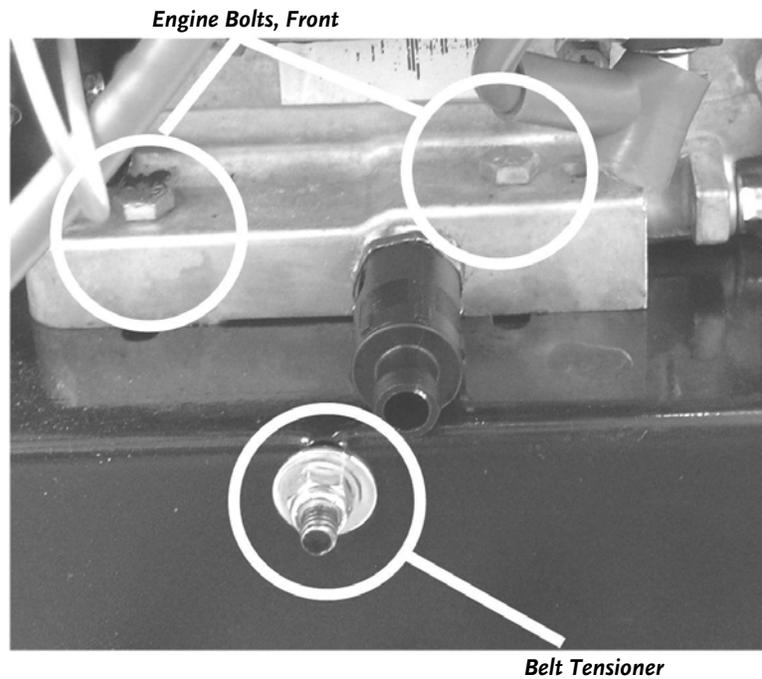
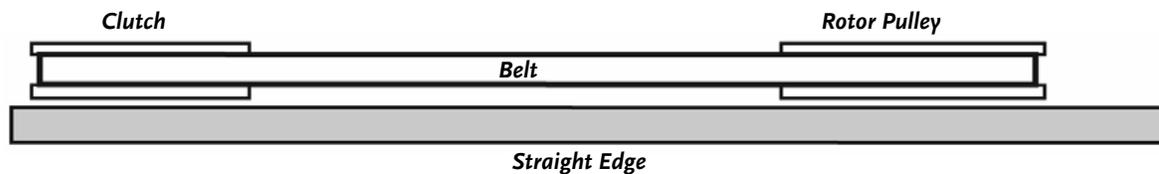
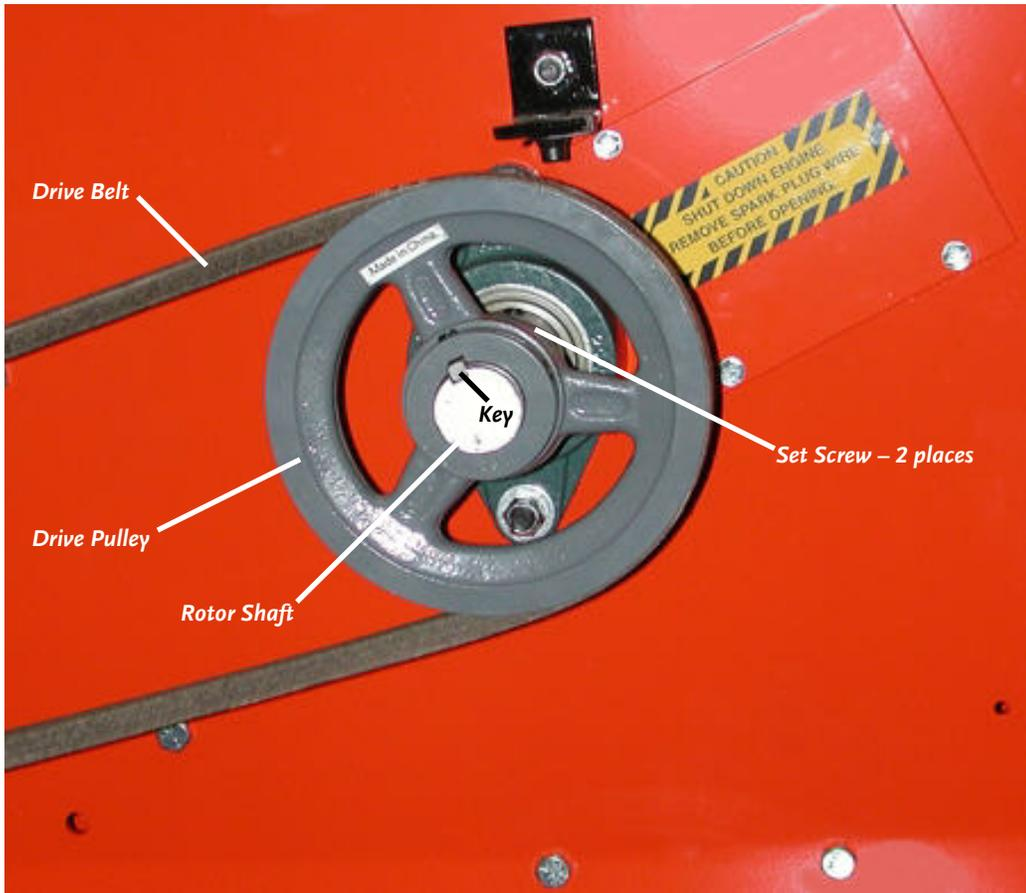

Figure 9
Figure 10
Figure 11
2. Loosen the four (4) Engine Bolts (2 in the Front and 2 in the Rear) using two (2) $1/2$ " Wrenches, one (1) on the Bolt and one (1) on the Nut underneath (**Figure 9** on page 29).
3. Tighten or loosen the nut on the Belt Tensioner (**Figure 9** on page 29) using a $1/2$ " Wrench until you have the correct tension as shown in **Figure 8**.
4. Retighten the four (4) Engine Bolts.
5. Check the alignment of the Clutch with the Drive Pulley by placing a straightedge across both faces as shown in **Figure 10** on page 29. If adjustment is necessary, correct the alignment as follows:
- a) Remove the two (2) Set Screws in the Drive Pulley Hub with a $5/32$ " Allen Wrench (**Figure 11** on page 30) and set them aside.
- b) Using a straightedge, align the Clutch and Drive Pulley as shown in **Figure 10** by moving the Drive Pulley in or out on the Rotor Shaft (**Figure 11** on page 30). **Do not make the adjustment by moving the Clutch on the Engine Shaft.**
NOTE: After you perform the adjustment, make sure that the Key remained in the Rotor Shaft and flush with the end surface of the Shaft (Figure 11 on page 30).
- d) Tighten the Set Screws while maintaining the alignment of the Clutch and Rotor Pulley (**Figure 11**).